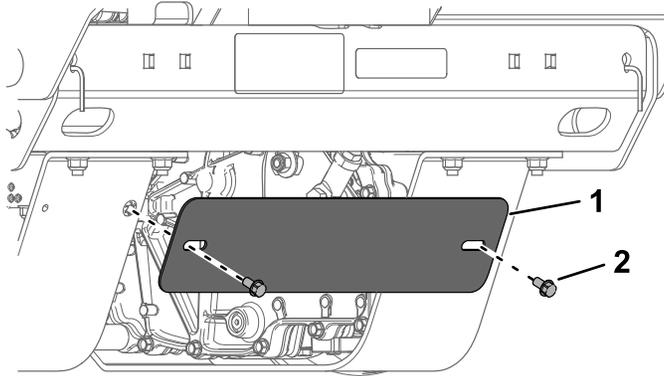

Figure 63
4. Remove the 2 bolts and guard plate Figure 63).
9. Install the guard plate (Figure 63).